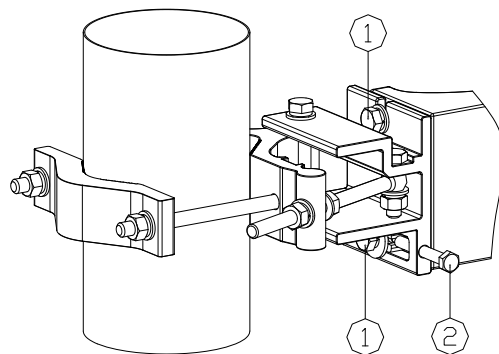

Fig 5.2
①③Nut M10 ②Clamp ④Azimuth Adjustor ⑤⑥Bolt M10
Coarse elevation adjustment was made in section 3.2 by selecting the correct mounting holes for the elevation required. Make fine elevation adjustment (shown in Fig 5.2) by loosening the bolts ①, and then rotate Elevation Adjustor ② clockwise or counter clockwise. The antenna has a fine adjustment of $\pm 15^{\circ}$. Tighten bolts ① after the adjustment is complete.